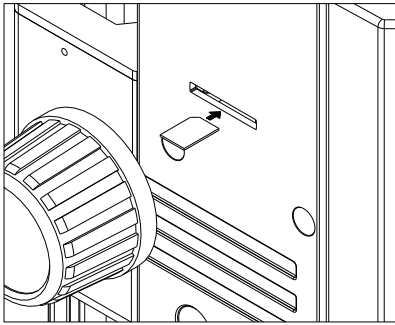

Fig. 12
6) MINI interface⑥, connect the MINI cable to output the USB function image.
7) SD card is as shown in the figure, face the chamfer to the left and insert it to the bottom. (See Fig. 12)